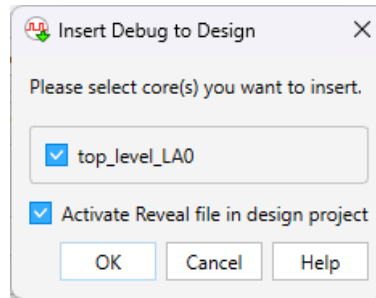

Figure 49: Reval Insert Debug to Design Dialog Box
- In the Insert Debug to Design dialog box, shown in Figure 49, be sure that the Activate Reveal File in Design Project option is selected.